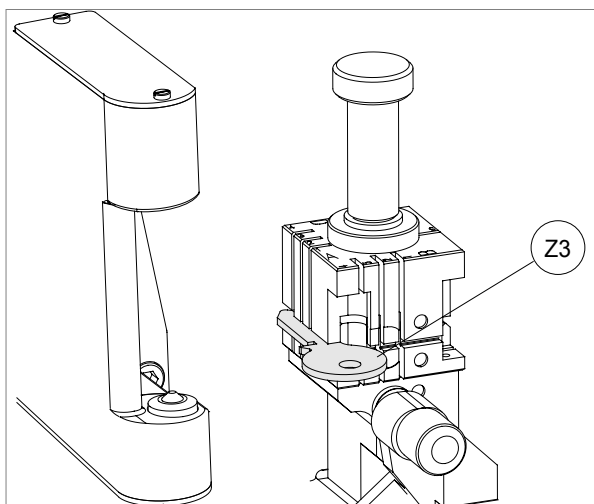

Fig. 29
- 2) fit the (Z3) template to side A of clamp R100 (fig. 29).